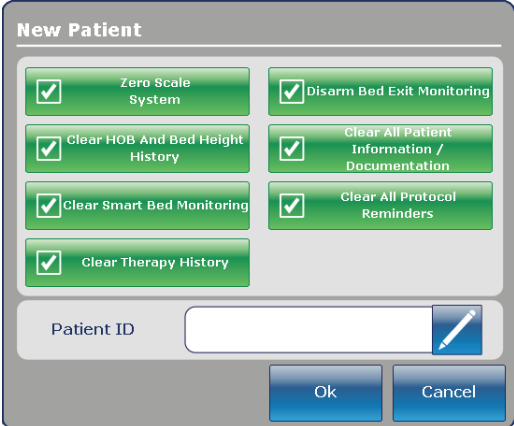

Figure 21: New patient
1. Tap the pencil (Figure 21 on page 45).
Display Patient ID: Displays the Patient ID. You can enter the Patient ID on the **New Patient** screen (Figure 21 on page 45).